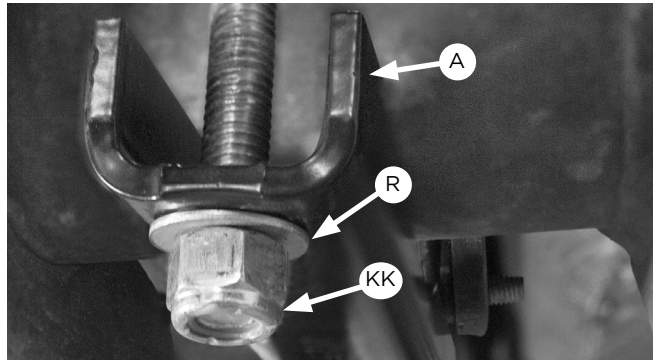

Fig. 36
If you have a sway bar, insert the carriage bolts through the clamp bar (A) as you set the assemblies into position over the axle (see Fig. 36).
8. If not already completed (sway bar noted earlier), set the lower clamp bars (A) over the carriage bolts located under the axle (Fig. 36). Attach with 3/8" flat washers (R) and nylon lock nuts (KK). Evenly torque the lower clamp bar hardware to 16 lb.-ft. (22Nm).